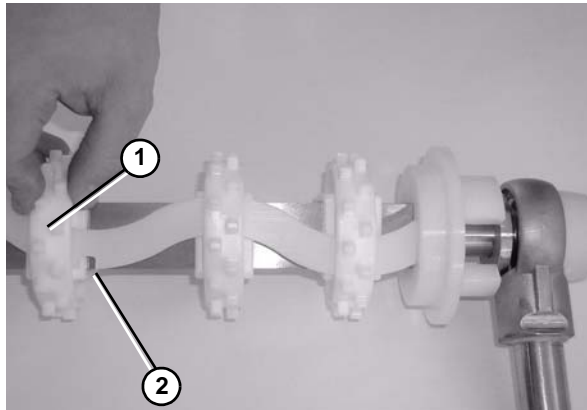

Figure 71
4. Install the remaining sprockets (**Figure 71, item 1**) making sure to position each sprocket with the next available notch (**Figure 71, item 2**) in the sprocket alignment bar.